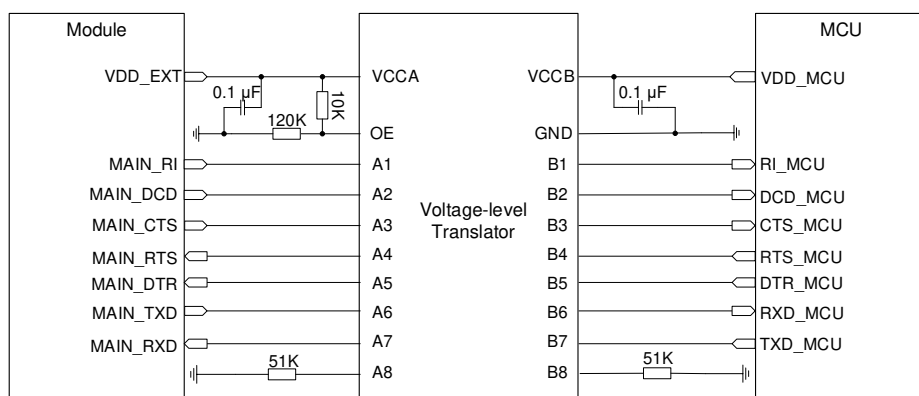
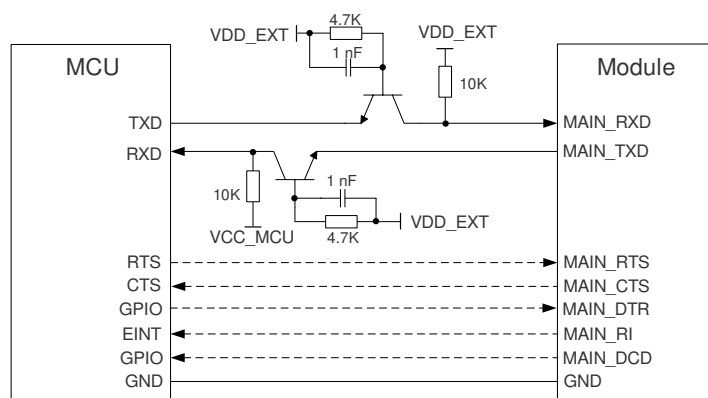

Figure 19: Main UART Interface Reference Design (IC Solution)
Figure 20: Main UART Interface Reference Design (Transistor Solution)
3. The level-shifting circuits (*Figure 19* and *Figure 20*) take the main UART as an example. The circuits of the debug UART and the GNSS UART are connected in the same way as the main UART.